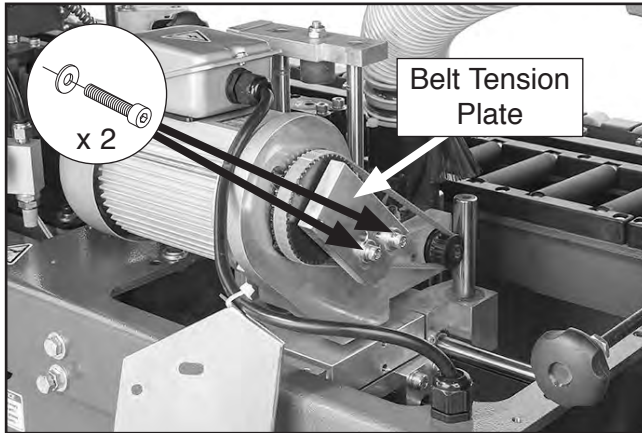

Figure 107. Location of cap screws that secure end trimmer belt tension plate.
- Loosen—but do not remove—cap screws that secure end trimmer belt tension plate (see **Figure 107**).